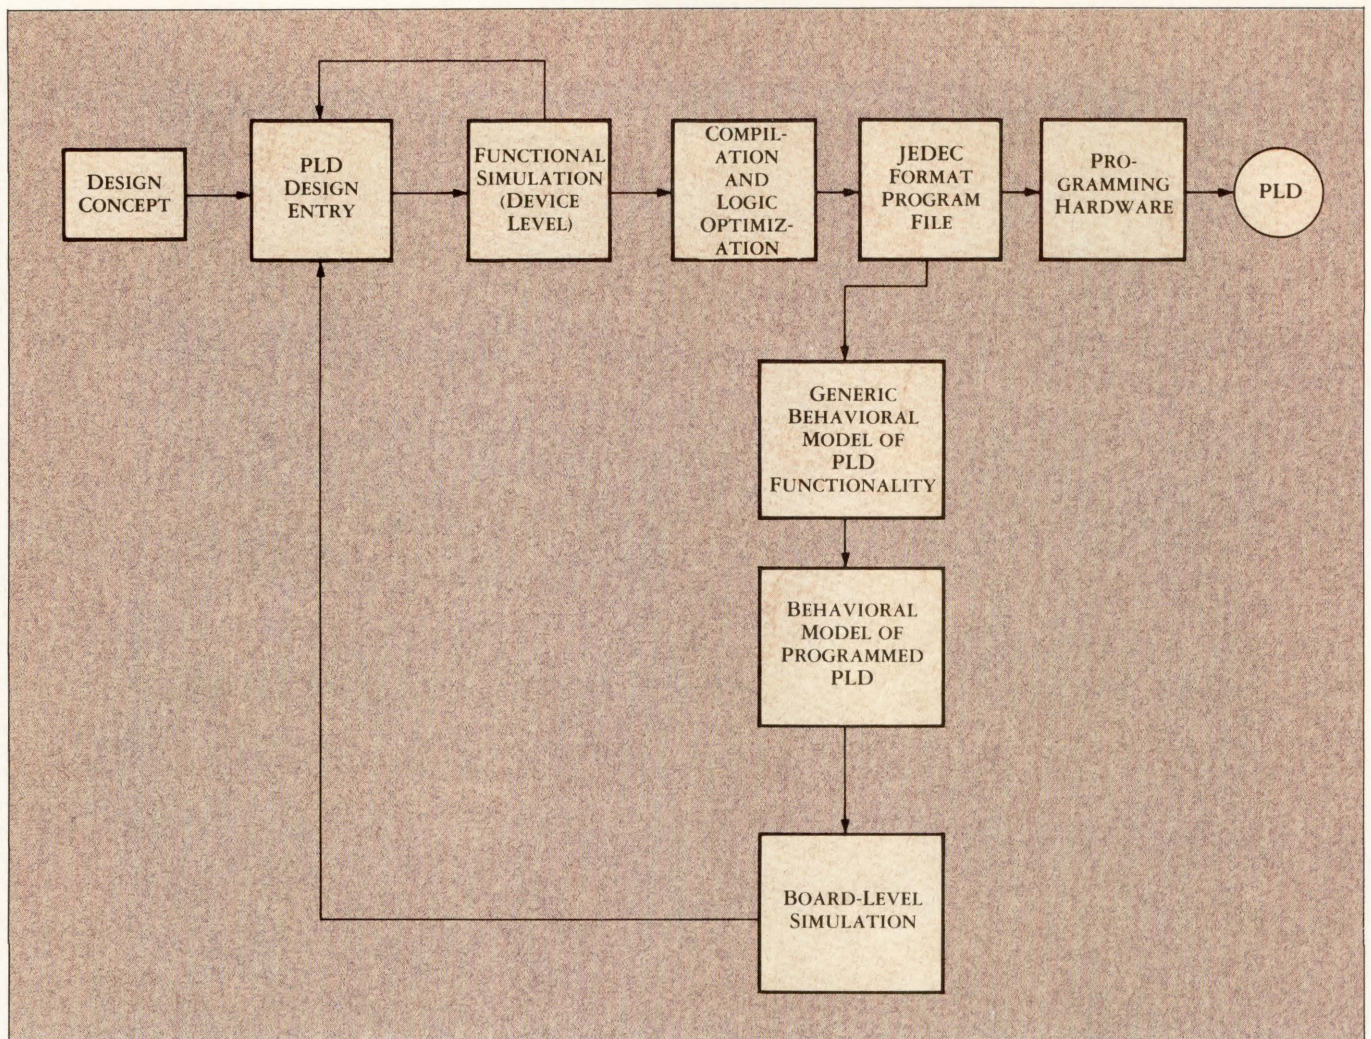

Figure 1. Behavioral PLD models can read the JEDEC-format program file to create a PLD model for board-level simulation.
As can be seen in Figure 4 (and in Figure 1, which relates to Figure 4), this design simultaneously performs its comparison based on equality, greater-than, and less-than by utilizing a separate bus for each. The location of the attribute to be compared is sensed by the mask bit pattern and identified by two control signals, the start bit (S) and the finish bit (F).
simulation and critical path analysis (Figure 1).